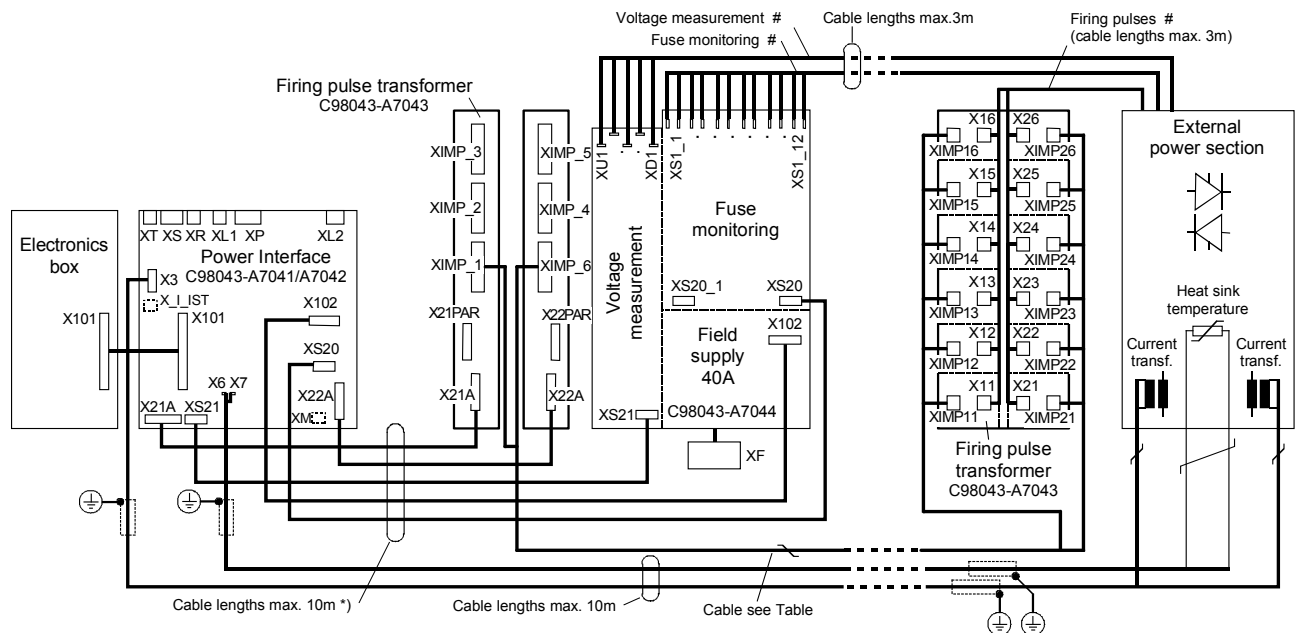

Fig. 6.4.2
2. Rear and front trough mounted one on top of the other or separately, module C98043-A7043 and separated (firing pulse transformer mounted with power section), module C98043-A7044 not separated (Fig. 6.4.2)